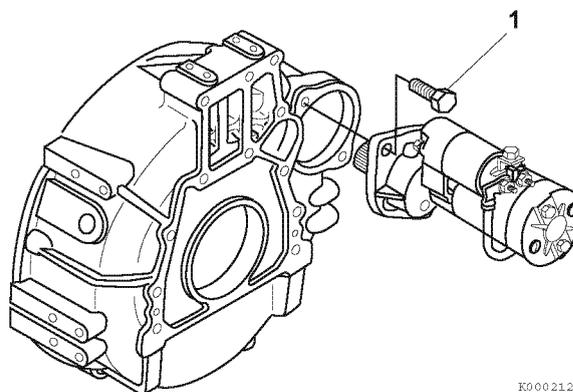

Figure 11-36
2. Reinstall the starter mounting bolts (1, **Figure 11-36**). Tighten the bolts to specification. See *Tightening Torques for Standard Bolts and Nuts* on page 4-43.